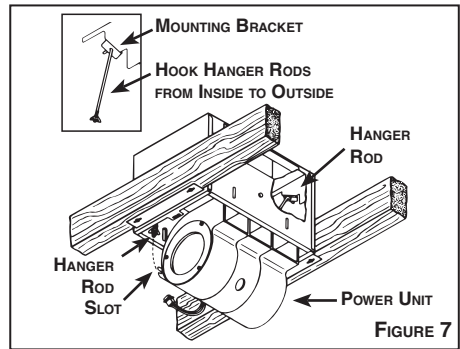

FIGURE 7
1. Refer to Figure 7. The power unit mounts with two hanger rods to the mounting brackets. Start threading wing nuts (included) onto hanger rods. Insert the hanger rods through the holes in the mounting bracket hooking them from the inside to the outside.